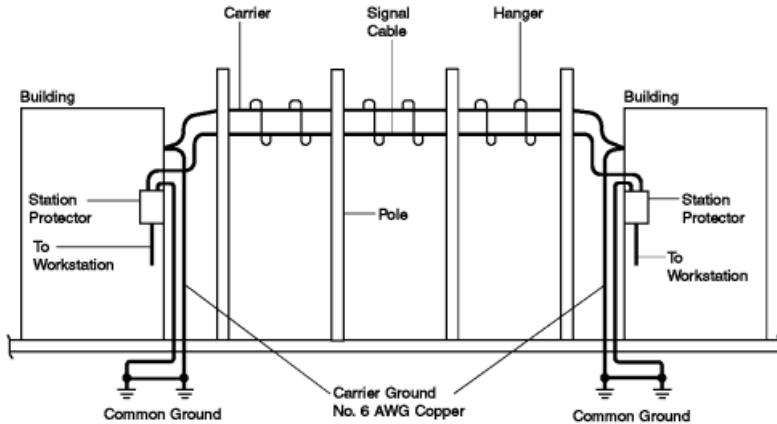

Figure 15. Using Carrier with Overhead Cables
- Put overhead cables on a carrier with the carrier grounded at each end. See Figure 15.